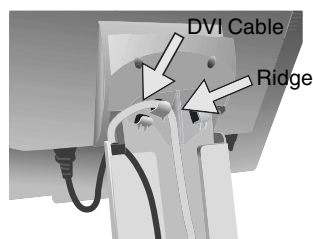

**Figure C.1**
3. Place hands on each side of the monitor to tilt the LCD panel 30-degree angle and lift up to the highest position (**Figure C.1**).
4. Connect all cables to the appropriate connectors (**Figure C.1**).
**NOTE:** If connecting both DVI and D-sub cable, the DVI cable must be connected along side the rib on the power cord side (**Figure C.1**).